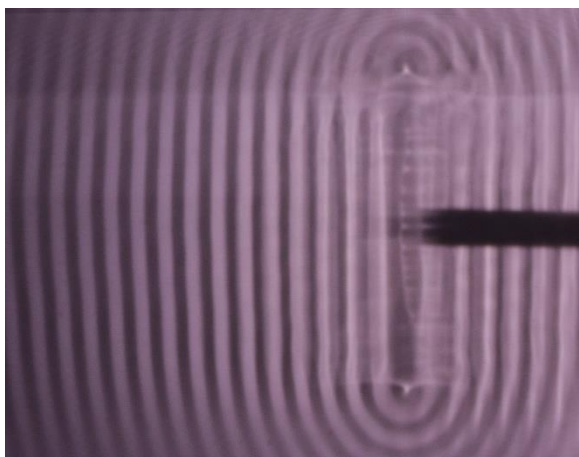

Fig. 1a: Generation of plane waves
- Insert the appropriate wave exciter one after the other into the arm until fully seated, secure them using the knurled screw, and generate plane waves, circular waves, or interfering circular waves accordingly (Fig. 1a – d). Adjust the immersion depth of each wave exciter by setting the height of the holder so that the bottom edge of the wave exciter just touches the water surface.